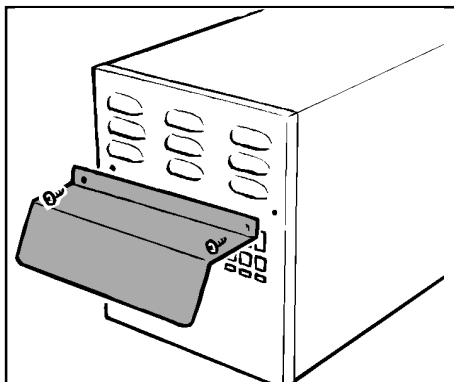

Figure 16 Weather Shield Installation
10.1 Fit the weather shield and guard to the back of the flue unit as detailed below (see figures 16 & 16a).
10.1.3 Place the weather shield in position aligning the holes in the shield with those at the sides of the end plate. Secure with the two screws previously removed. see figure 16.